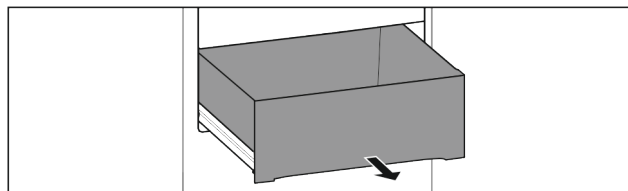

Fig. 12
- Drawer is completely pulled out (see Fig. 12) .